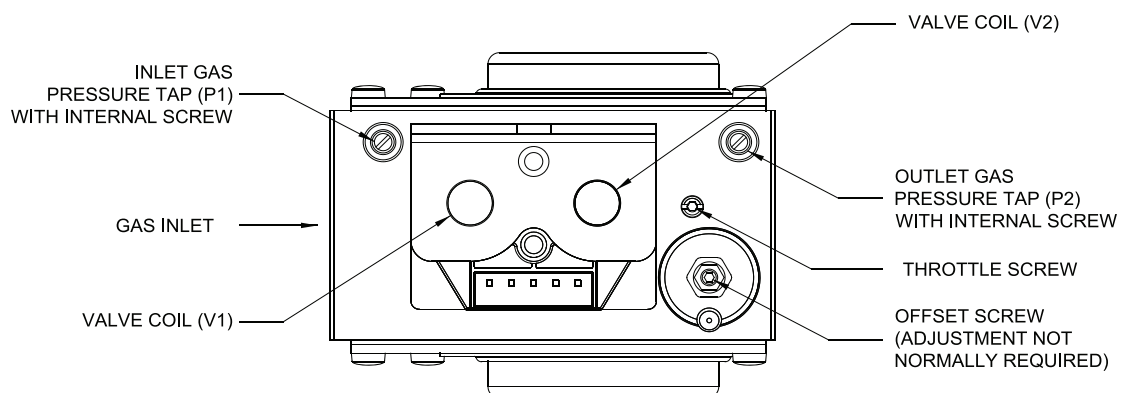

Figure 49: Gas Valve Detail
7. If low CO₂ is too high, decrease CO₂ by turning offset screw counter-clockwise in less than 1/8 turn increments and checking the CO₂ and CO air free after each adjustment. If boiler is equipped with 2 gas valves, offset screw adjustments must be done to both gas valves equally and simultaneously. See Figure 49 for location of offset screw. Verify CO air free is less than 200 ppm.
8. If low fire CO₂ is too low, increase CO₂ by turning offset screw clockwise in less than 1/8 turn increments and checking the CO₂ and CO air free after each adjustment. If boiler is equipped with 2 gas valves, offset screw adjustments must be done to both gas valves equally and simultaneously. See Figure 49 for location of offset screw. Verify CO air free is less than 200 ppm.